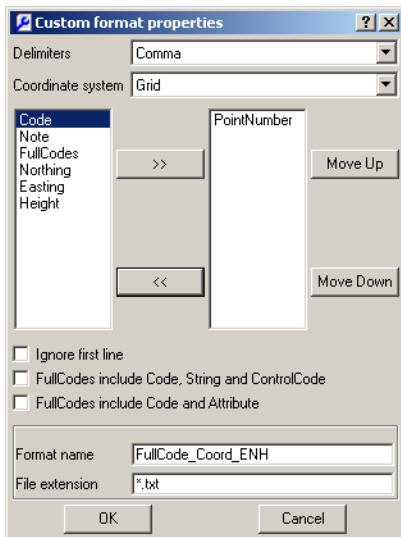

Figure 4-5. Custom Format Properties
- In the **Custom format properties** dialog box, enter the file’s parameters (Figure 4-5 on page 4-3).